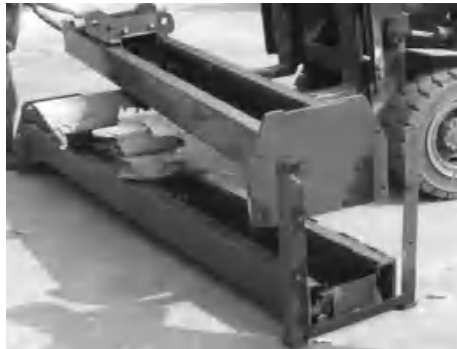

Fig. 10
4. Lift the upper column with a fork lift or hoist, loose the bolts of the upper package stand, then take out the parts in the inner column (**See Fig. 10**).